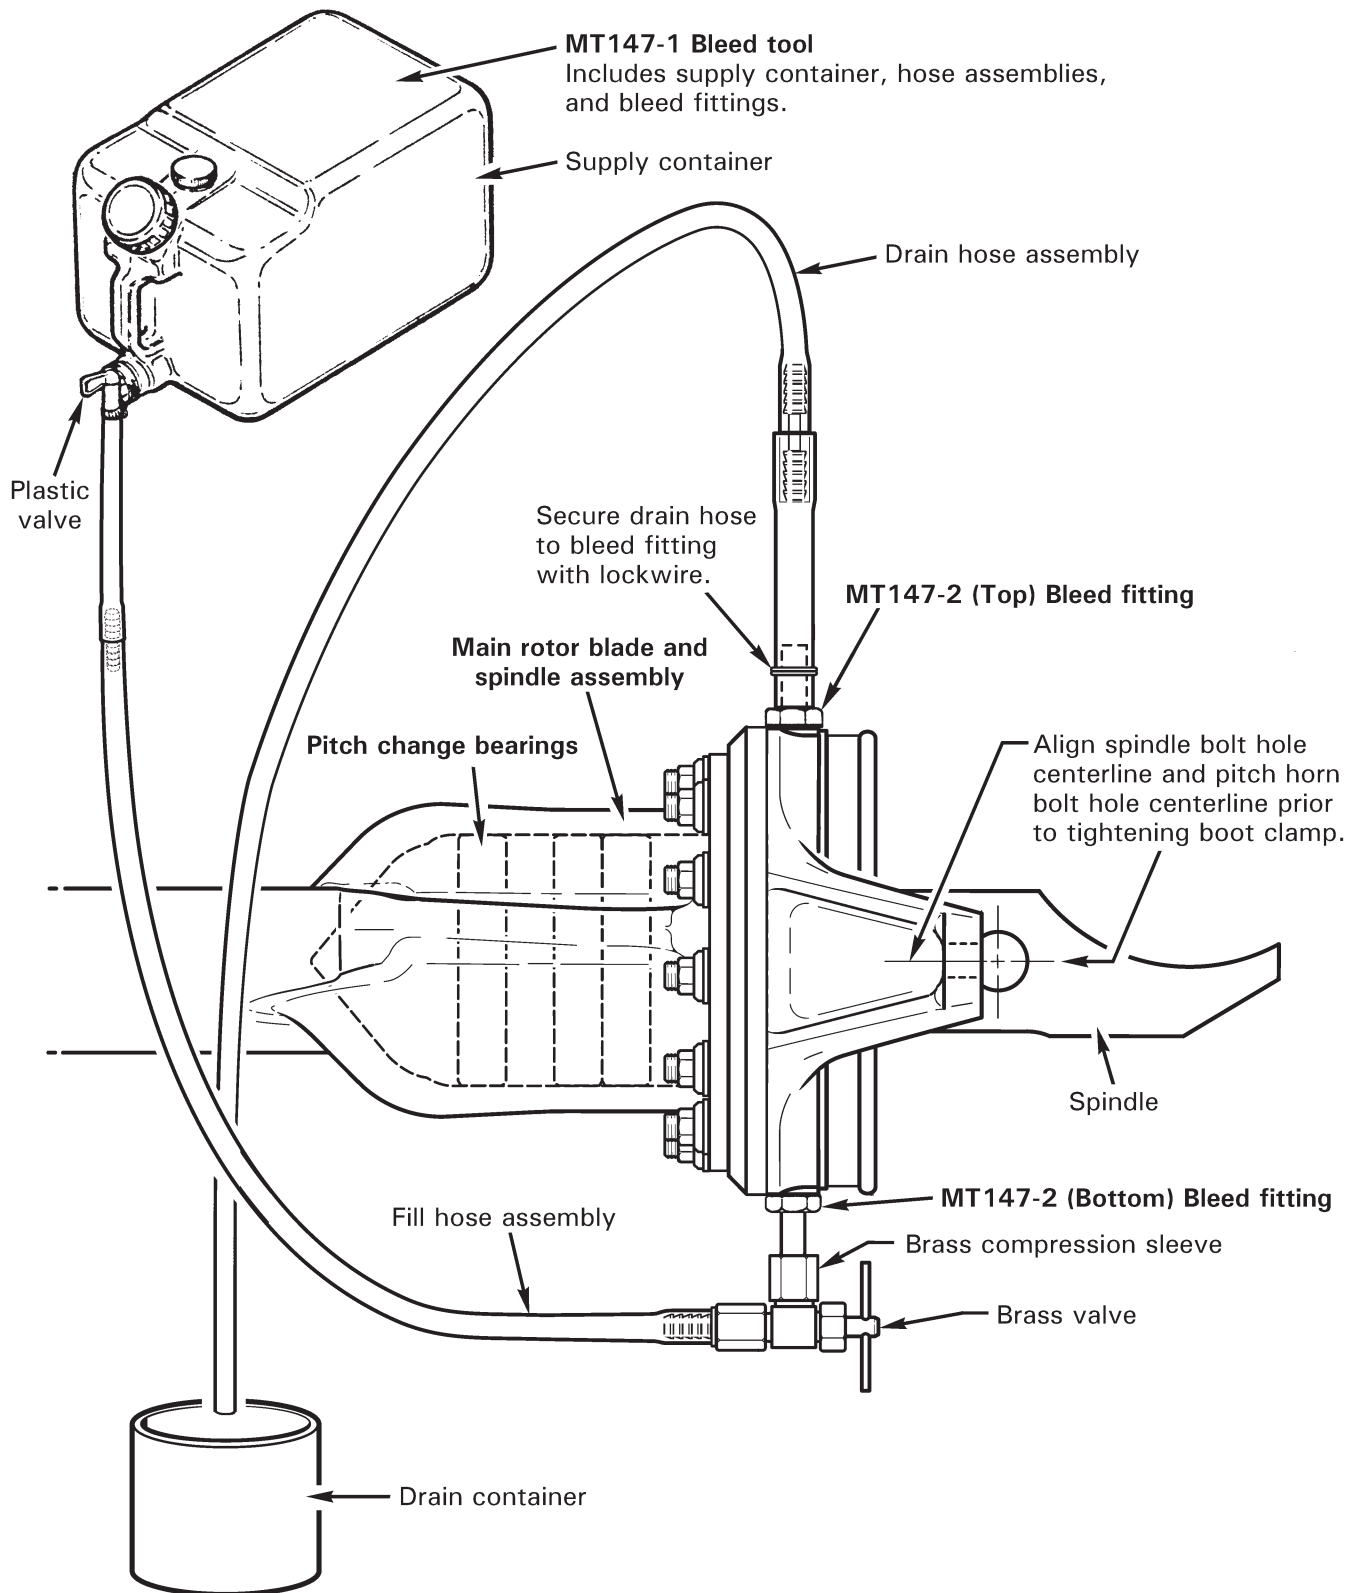

FIGURE 22-2 FILLING PITCH BEARING HOUSING
2. Refer to Figure 22-2. Place a suitable drain container below main rotor pitch horn. Remove two B289-2 bolts from pitch horn and drain fluid.